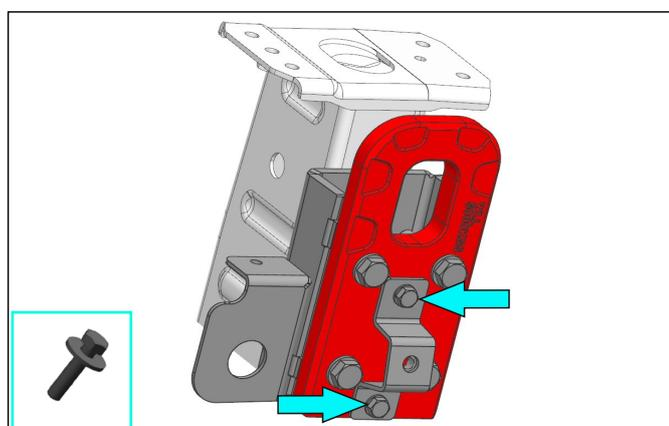

Fig.28
28. Install skid plate bracket (item 31) on recovery point (item 40) and fix it using bolts M8x20, washers 8 (item V, X) (fig.28).